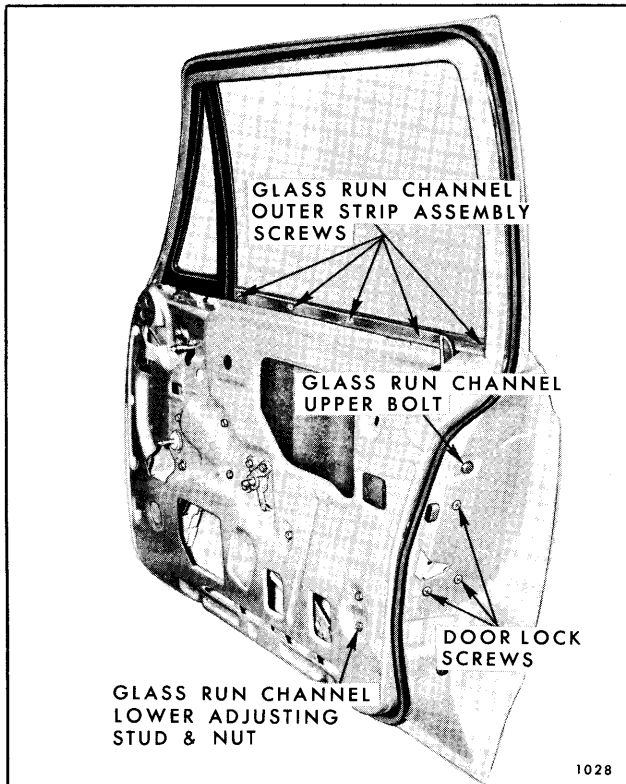

Fig. 6-74—Door Hardware Attachments - "B" Closed Styles
3. Remove glass run channel upper attaching bolt (at belt) and lower adjusting stud nut (Fig. 6-74).